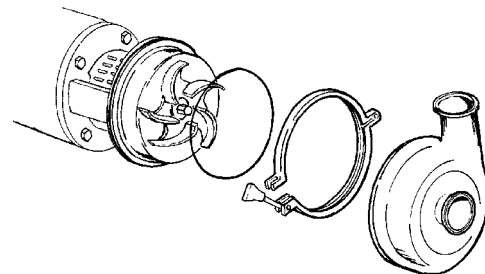

Figure 36 - Install Casing
- Install casing O-ring on backplate and clamp casing in place. (Figure 36).